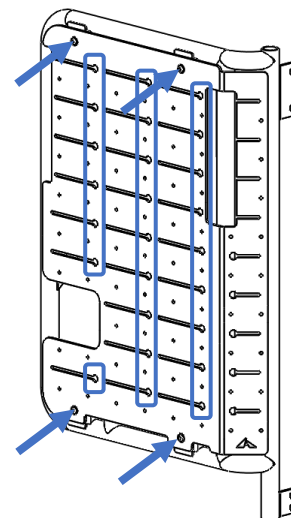

Figure 3: Tray Installation Locations with BackPACK
6. Slide two (2) 3/8" carriage bolts into each bike tray slot.
7. Install the bike rack trays onto the BackPACK using the carriage bolts through the indicated holes on the bike rack or BackPACK (see Figure 3). **NOTE:** The 3/8" bolt can only fit into the large hole at the end of each slot – please use the indicated locations only.
10. With the lower support arm of the bike tray extended to approximately parallel with the ground (as shown in Figure 3), slide the upper support bracket (on the back of the bike tray) up until tight. Tighten the 3/8" hardware to secure upper support bracket in place.